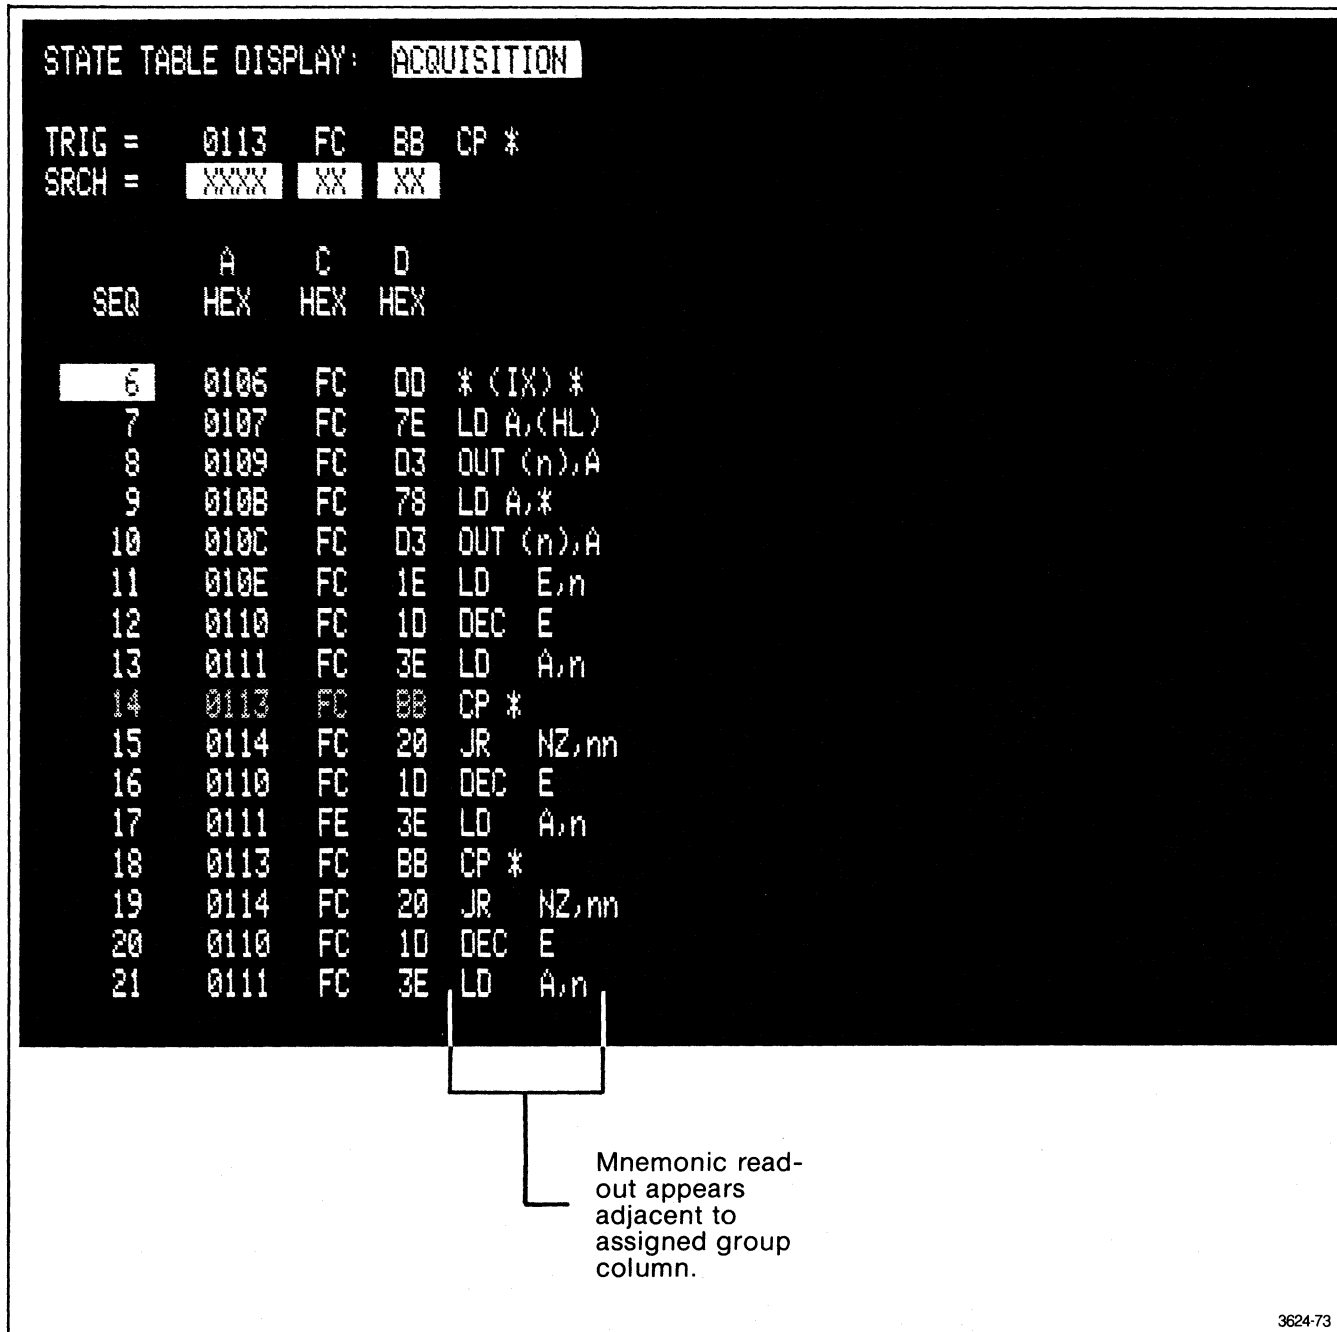

Figure 5-3. Mnemonic readout on the State Table.
**Mnemonic Display.** One element that can be used to enhance the State Table display is the Define Mnemonics menu. This menu lets you define mnemonics for the data columns. Figure 5-3 illustrates how the mnemonics appear on the State Table.